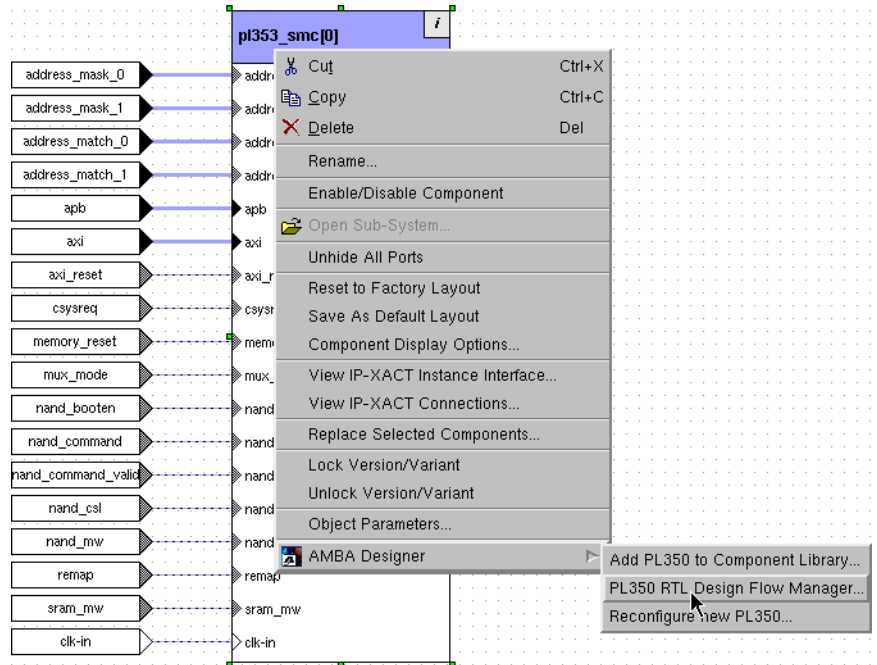

Figure 6-6 PL350 RTL Design Flow Manager selection
4. Select **AMBA Designer → PL350 RTL Design Flow Manager...** from the context menu, as Figure 6-6 on page 6-11 shows. This opens the RTL Design Flow Manager dialog box.